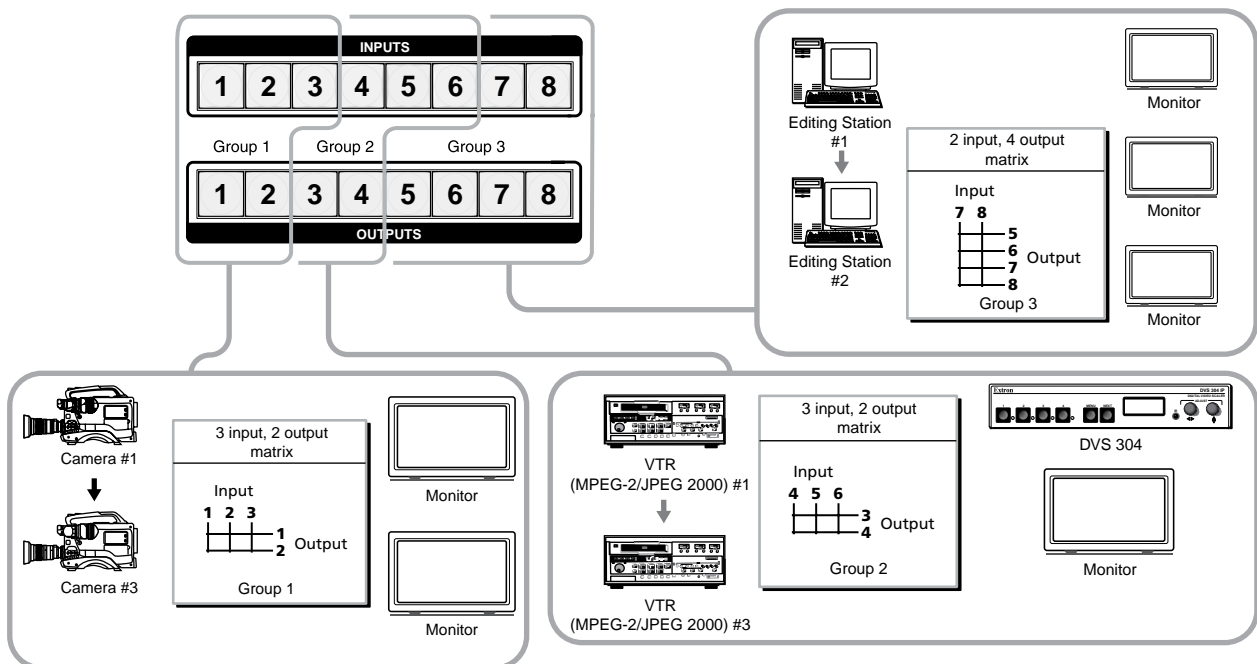

Figure 46. I/O Grouping of Incompatible Video Formats
Figure 46 gives an example of input and output grouping of DVI Pro and HDMI devices on a DXP.
- Segregating specific video formats to prevent an input in one video format from being inadvertently applied to an output device that supports another video format (see figure 46).